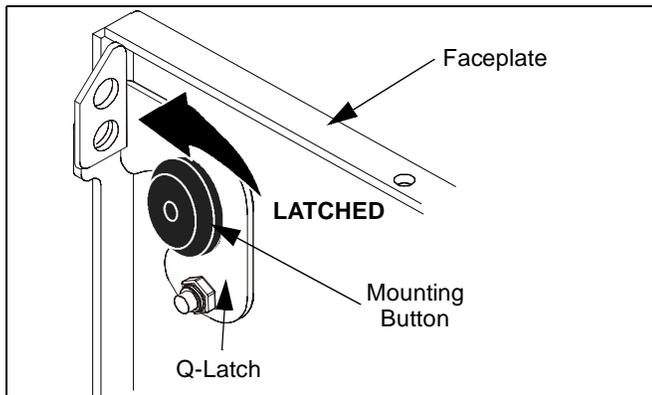

Figure 8
3. Secure display by rotating both Q-Latches to the fully LATCHED position (See Figure 8). If one or both Q-Latches do not fully engage, ensure the mounting buttons are fully seated in the teardrop slots.
2. UNLATCH both Q-Latches to unlock the display (See Figure 8).